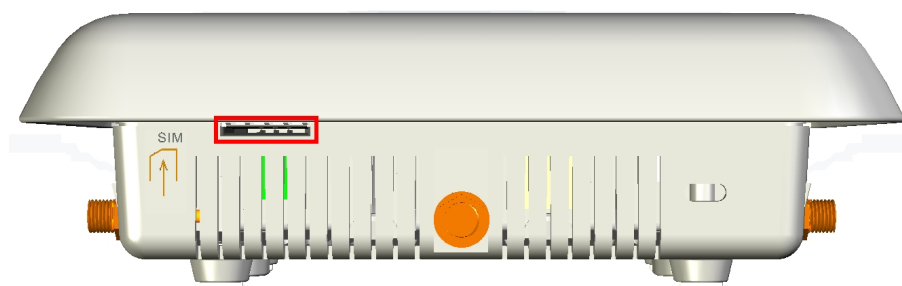

Fig. 14: Slot to insert the SIM card
- Place the router as shown in Figure 14.